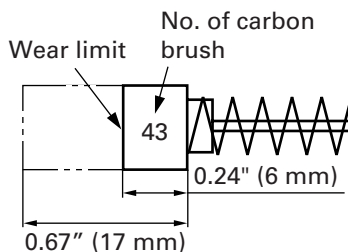

Fig. 23
## 4. Inspecting the carbon brushes (Fig. 23)
**NOTE:** Use HITACHI carbon brush No. 43 indicated in Fig. 23.